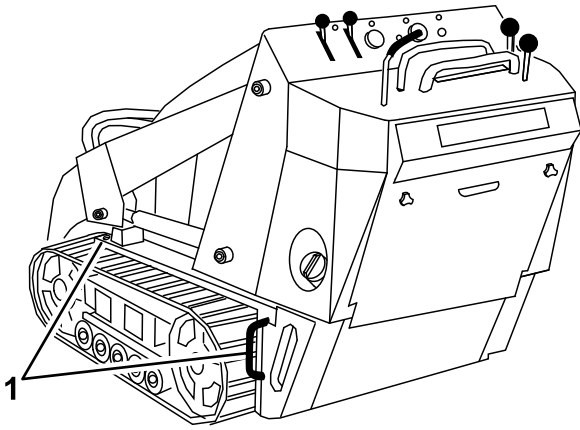

Figure 19
5. Load the machine onto the trailer with the heavy end up the ramp, carrying loads low (Figure 19).
1. Lower the ramp (Figure 19).